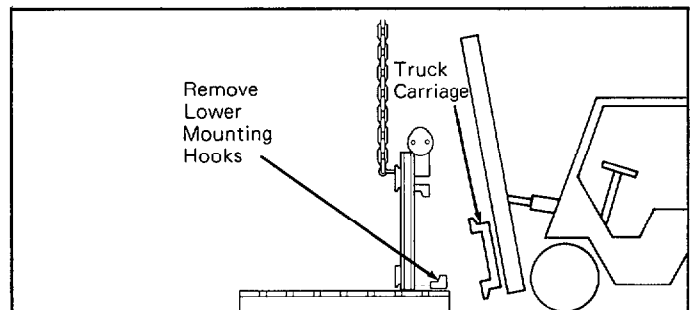

Figure 4. Position for Installation
1. Install eyebolts on both sides (in the fork bar area) of the rotator. Attach a hoist chain to the eyebolts and set the rotator in a vertical position. Remove the lower mounting hooks. Position the truck as shown in Figure 4.